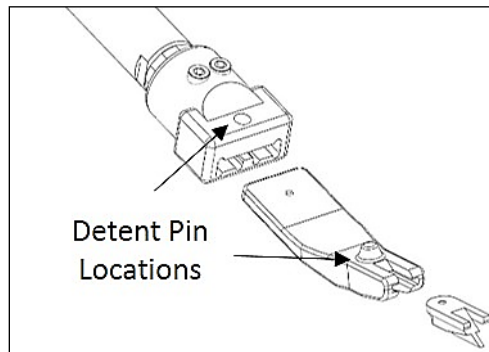

Figure 6. Adapter and TGB Installation
- 3.1.6. Attach the gap blade adapter to the pneumatic tool by inserting the adapter into the slot on the pneumatic tool and insert the TGB into the slot on the adapter. When installed correctly, an audible “CLICK” should be heard when the gap blade adapter engages the pneumatic tool detent pin and when the TGB engages the adapter detent pin. See **Figure 6**.